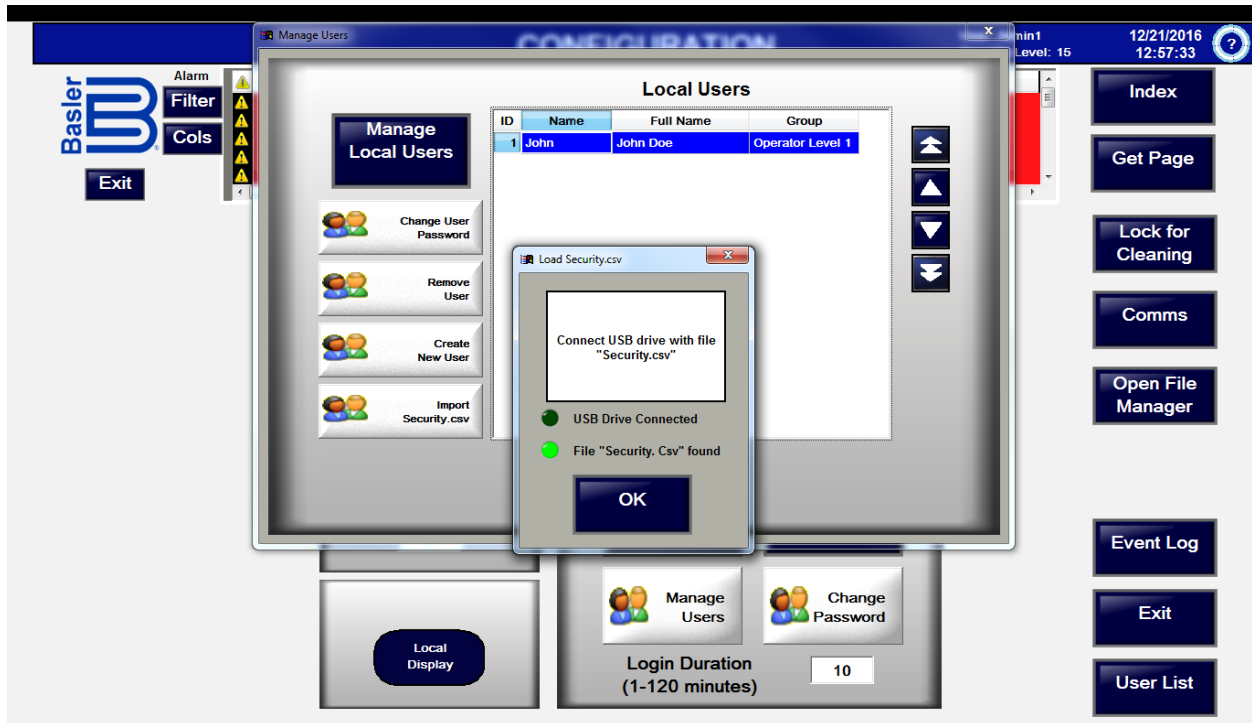

Figure 5-3. Import Security
4. Touch the Configuration > Manage Users > Import Security.csv button. A dialog indicates whether the USB flash drive and the Security.csv file were found (Figure 5-3).